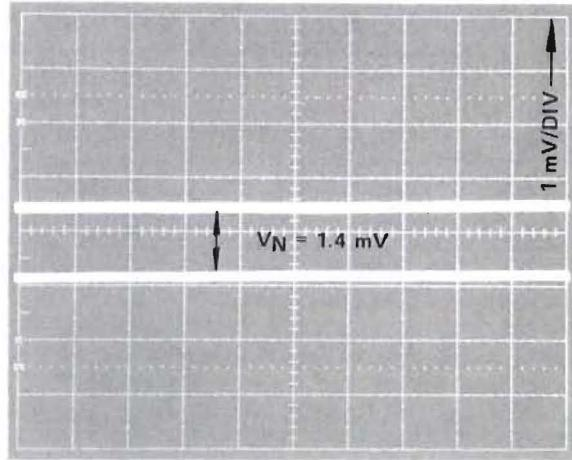

Figure 43 Measuring Separation between Two Traces
- Disconnect the inputs and measure the separation between the two traces in volts. This is VN (Figure 43).